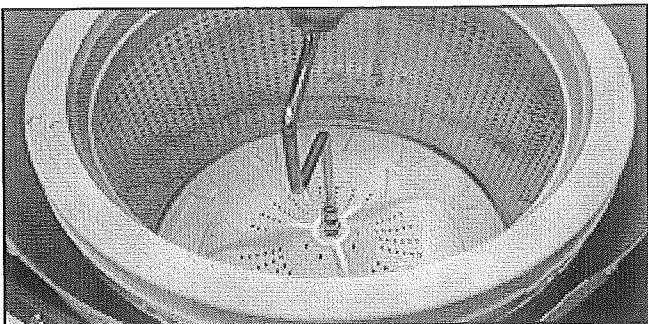

FIGURE 3
- Remove 7/16" bolt. Lift and remove basket assembly with wash plate/agitator. See *Figure 3*.